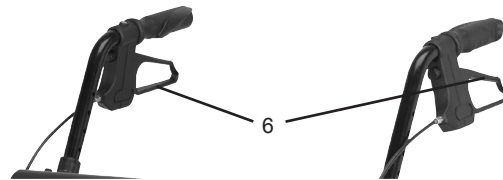

Figure 3
2. Then check the brakes and grab both Handles (4).
4. To slow down or temporarily stop the Walker during use, squeeze the Brake Handles (6) firmly. See **Figure 3**, below.